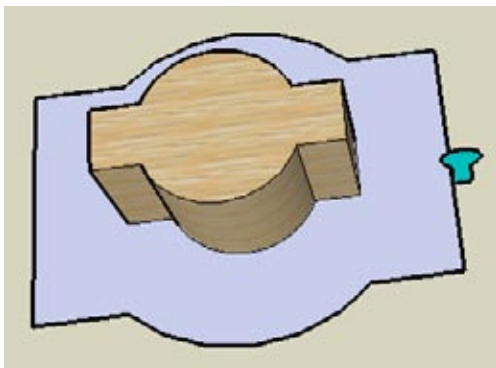

Figure 2-46
6. To correct the offset shape, add some straight lines to eliminate the sharp corners, and erase extra edges so that there is a single face (Figure 2-46).